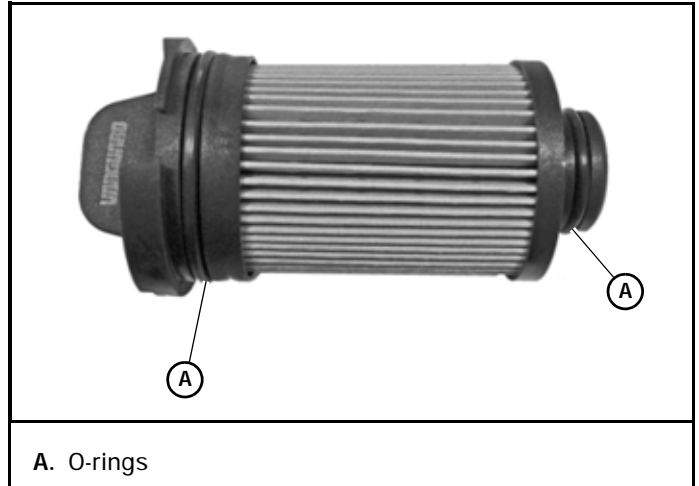

Figure 5-1
**NOTE:** Place a light film of oil on the oil filter's two o-rings before installing the new filter in the Oil Guard. Figure 5-1